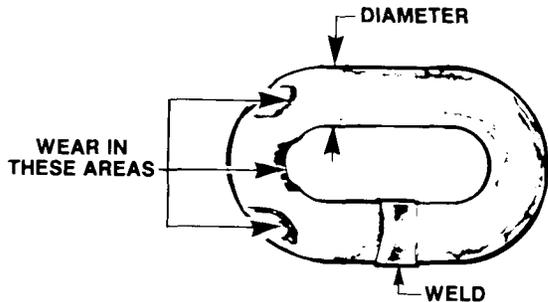

FIGURE 4-4. TYPICAL WEAR ON LINKS
- b. Inspect each link for wear to the diameter of the link (see Figure 4-4). The nominal link diameter is 0.250 inch for chain on models up to EC-2008 and 0.281 inch for chain on models EC-2012 and above. If the diameter of any link of 0.250 chain is worn to less than 0.200, or the diameter of any link of 0.281 chain is worn to less than 0.225, the entire chain must be replaced.